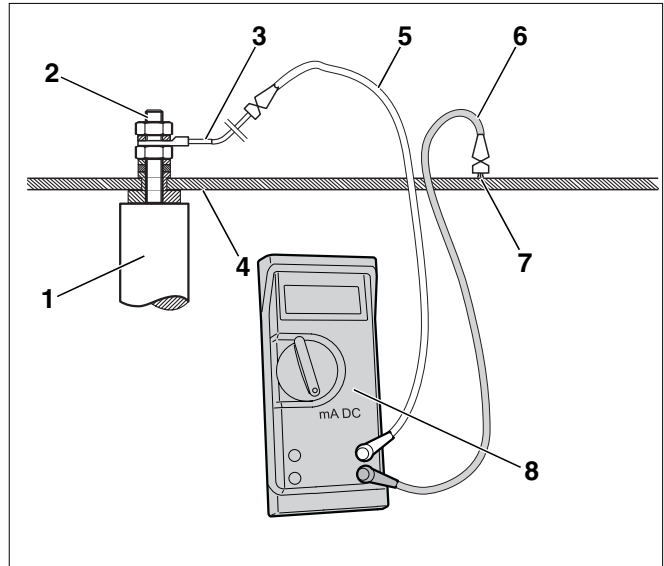

Fig. 19 Check magnesium anode with multimeter
- Disconnect ground wire (Fig. 19, **Item 3**) on the magnesium anode or on the DHW tank.
- Connect black multimeter measuring wire (Fig. 19, **Item 6**) to the threaded pin on the DHW tank (Fig. 19, **Item 7**).
- Connect red multimeter measuring wire (Fig. 19, **Item 5**) to the magnesium anode.